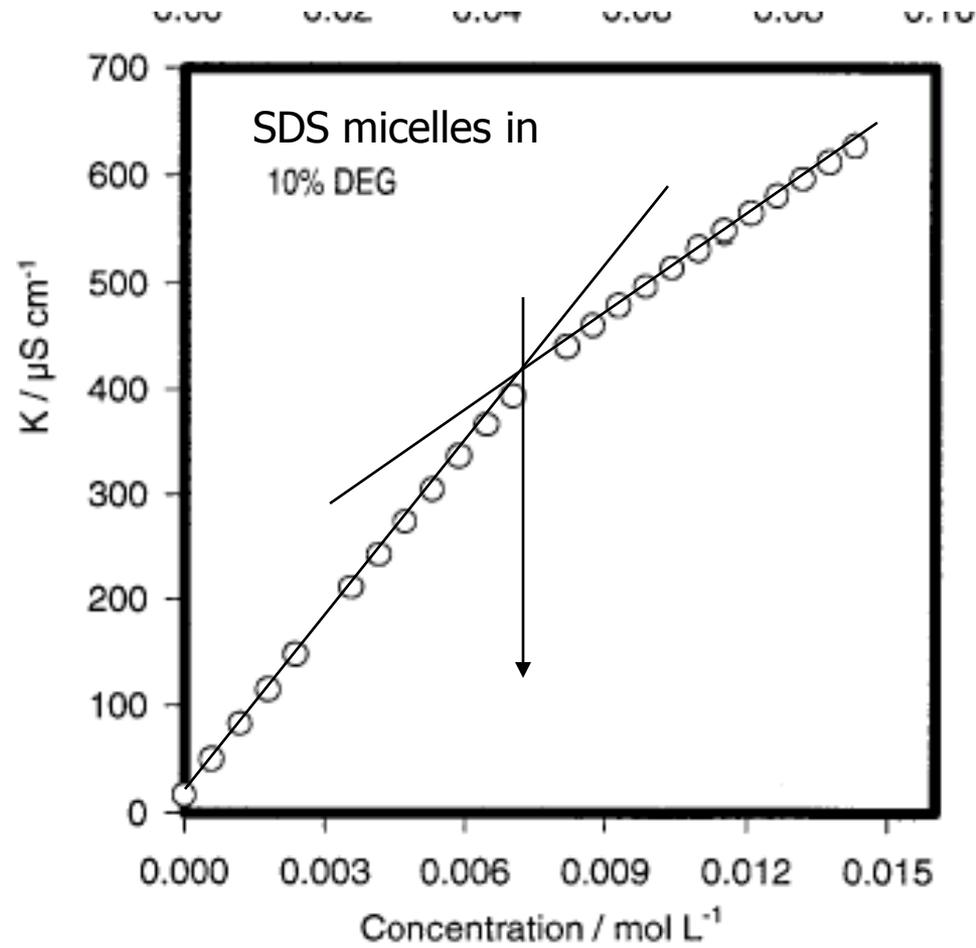

FIG. 1. Specific conductance ( $K$ ) vs concentration of SDS in aqueous mixtures of DEG at 298 K.
**Figure 1.** Absorption spectra at 0, 16 and 30 °C measured for a 5 wt % aqueous solution of P123 containing  $1 \times 10^{-3}$  mol/L R6G. The spectrum exhibits two peaks corresponding to the monomer and dimers of R6G in the solution.
Fig. 1. Pyrene 1:3 ratio versus total concentration of surfactant in water (●) and in solutions with different KCl concentrations at 25.0 °C: ○, 0.5 M; ▲, 1.0 M; △, 1.5 M; and ■, 2.0 M.